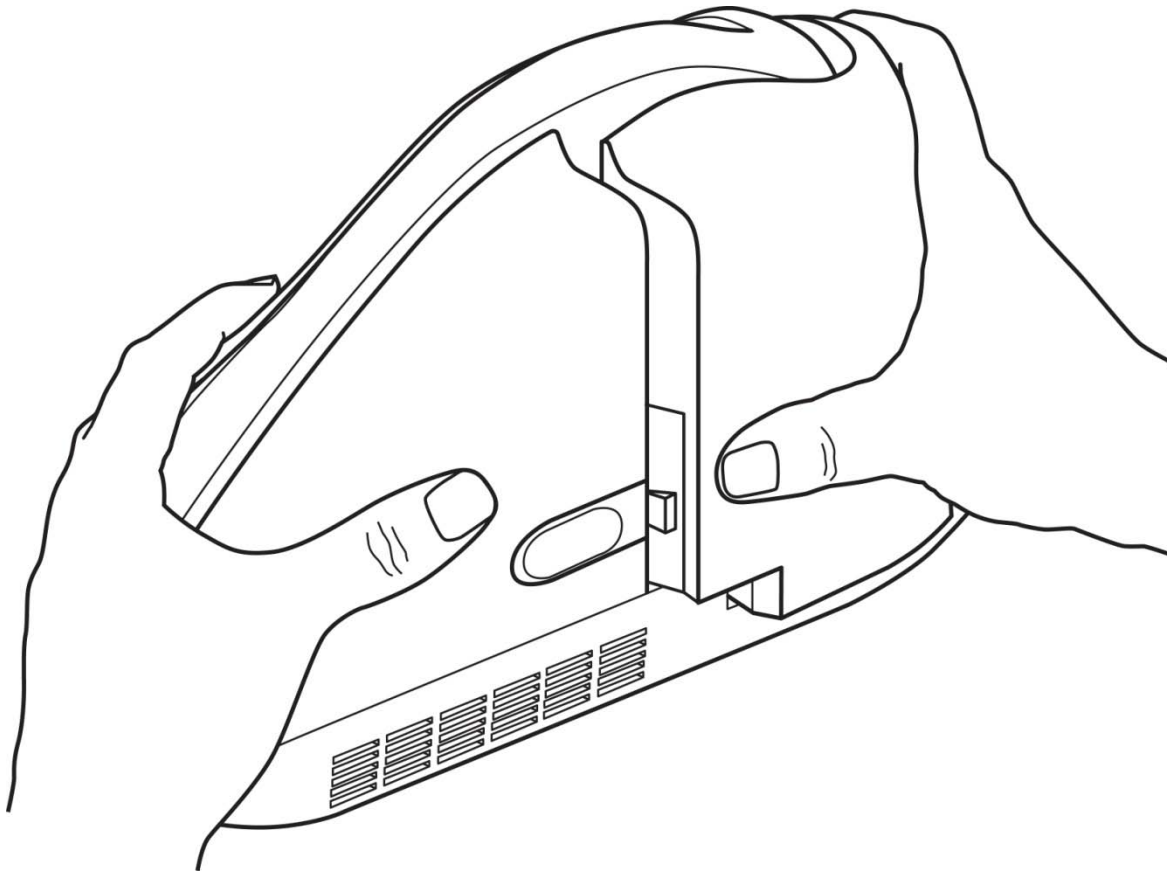

Figure 3-8. Closing the Unit
1. Hold the unit as shown in Figure 3-8. Push the rear access door closed with the right hand while holding on the opposite side with the left hand.